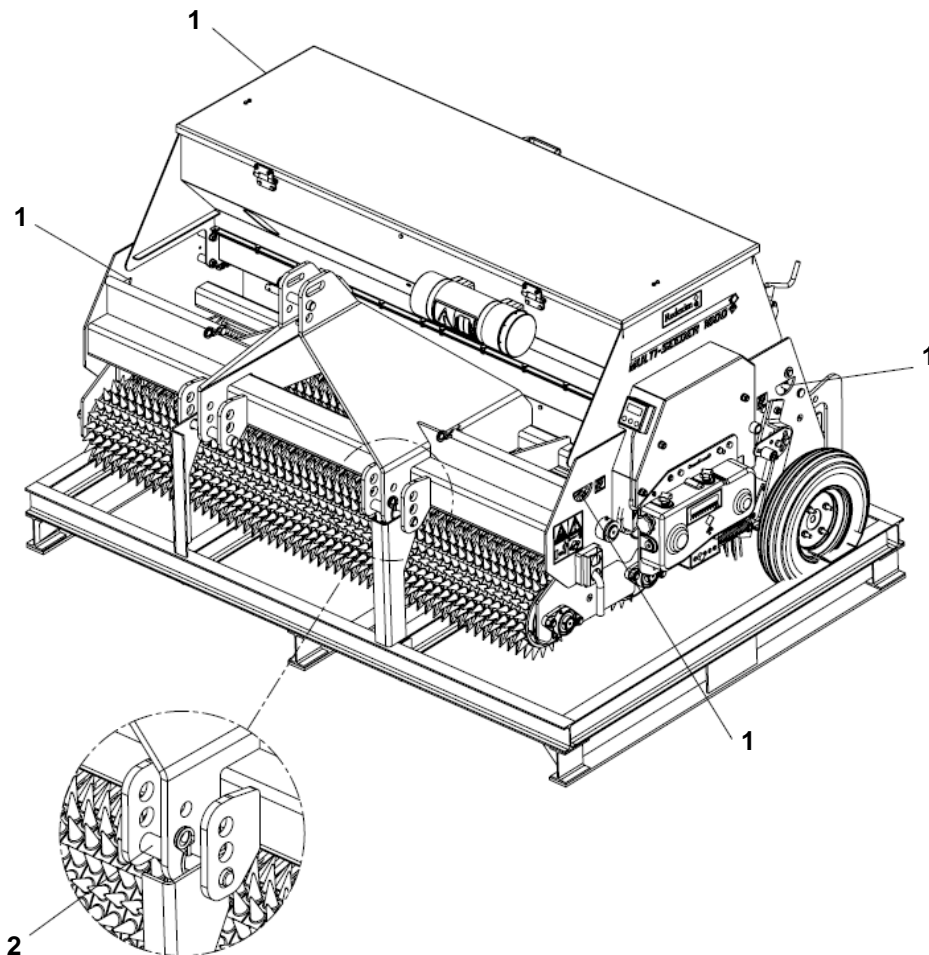

Figure 4
1. Attach a cable to the lifting points (1) on both sides of the machine (Figure 4).